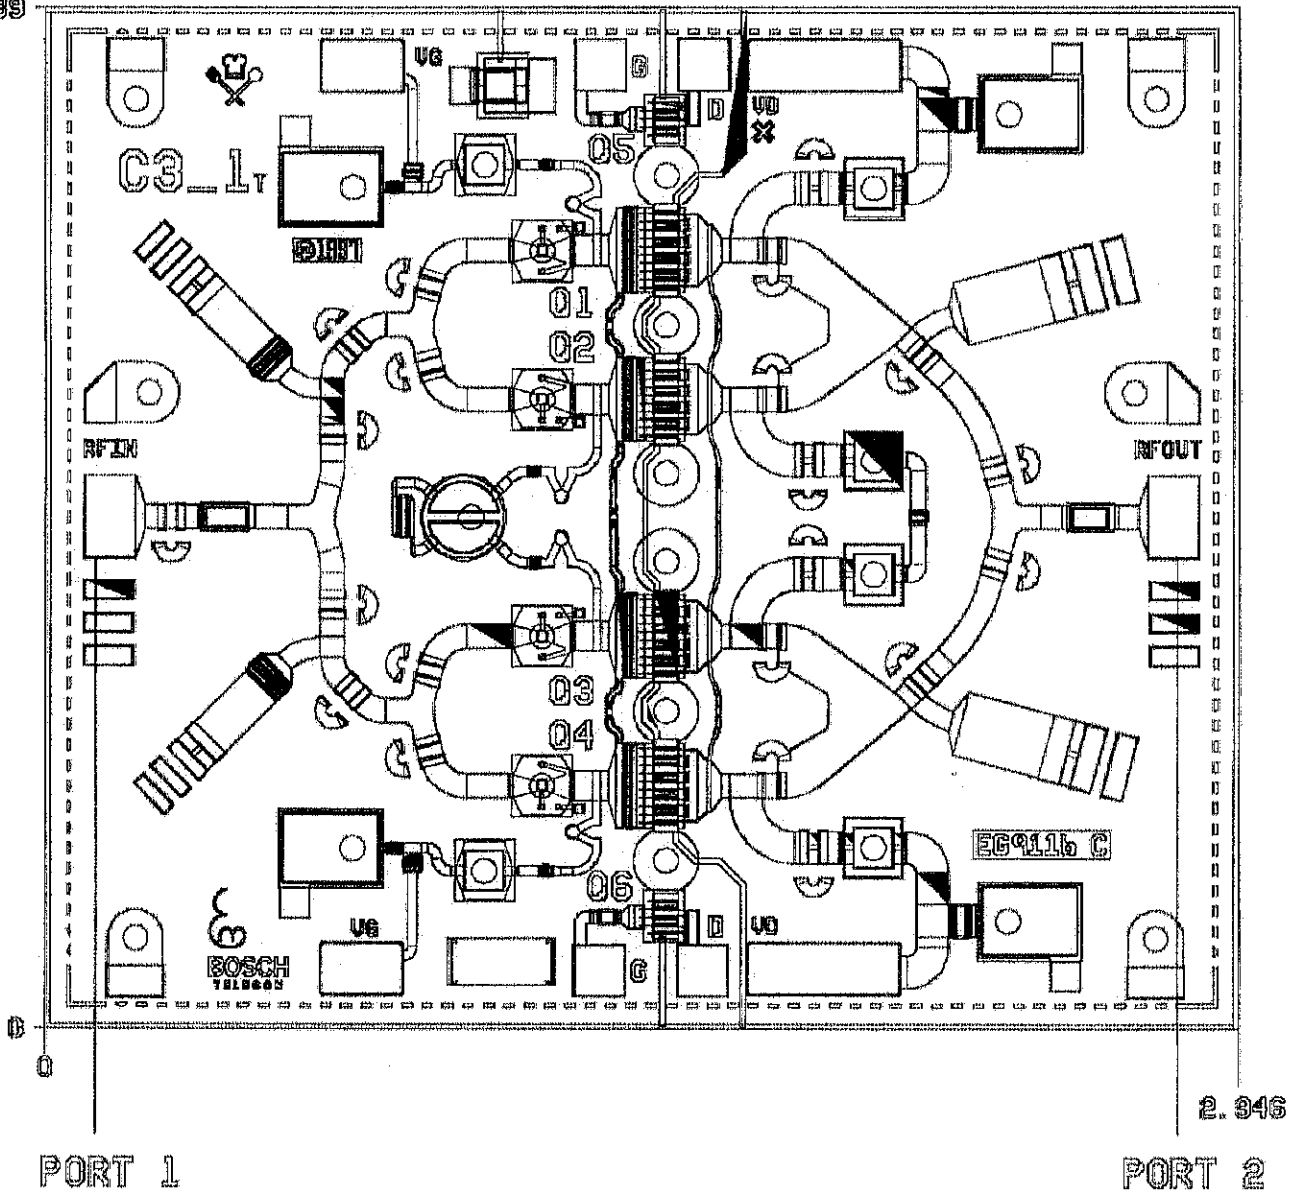

Fig.1
- Reference planes as defined in Fig.1